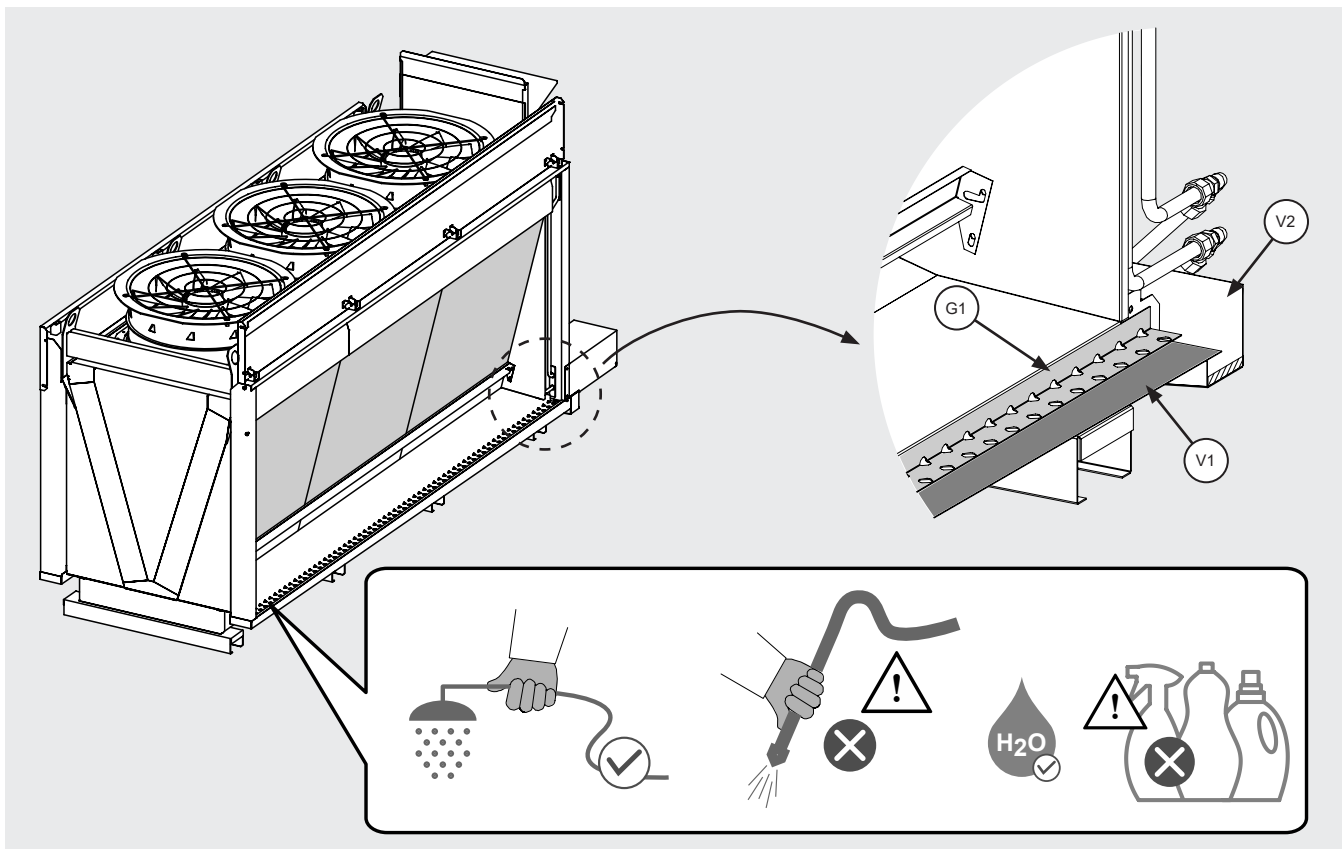

Figure 24
- 12.12.3 The model is equipped with 2 internal water collection tanks (V1) located under the two rows of adiabatic side panels. See Figure 24.
- 12.13.7 Clean with non-pressurised running water, taking care not to damage electrical connections and level sensors, see Figure 2 and Figure 24. Do not use pressurised water and/or cleaning or aggressive substances.